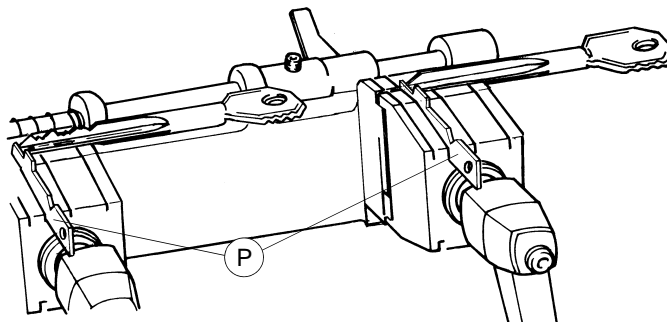
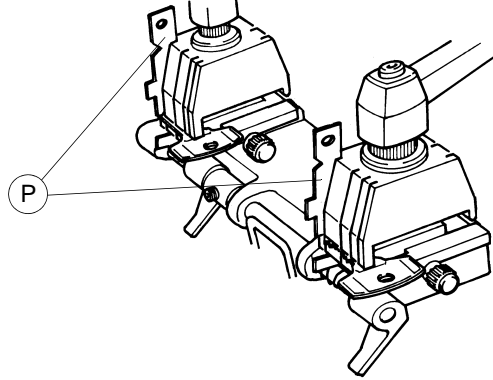

Fig. 11
Fig. 12
The bars provided (P) (fig.11) are used for cutting pin keys and as a tip rest for locking keys with no stop (fig.12).
- 3) butt the key stop against the bars (P) (fig.11).
- 5) remove the bars (P) from the clamp grooves to prevent it being touched by the tracer point or cutting tool.
The bars (P) can be used with keys which have no stop (fig.12). Proceed as follows:
- 2) insert the bars (P) into the slot in the clamps;
- 3) rest the tip of the key against the bar (P);
- 4) secure the key and remove the bar (P).